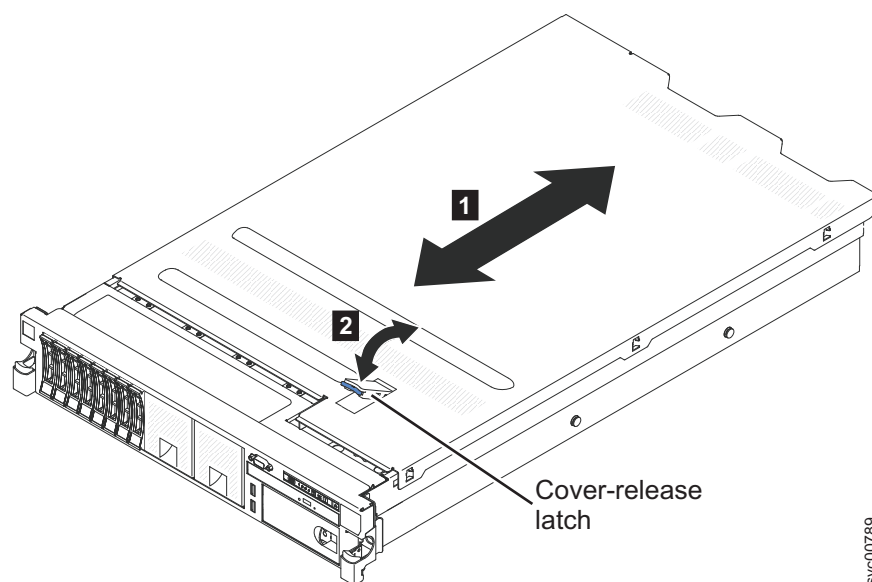

Figure 56. Replacing the SAN Volume Controller 2145-DH8 cover
4. Slide the cover toward the front of the node, as shown in Figure 56.